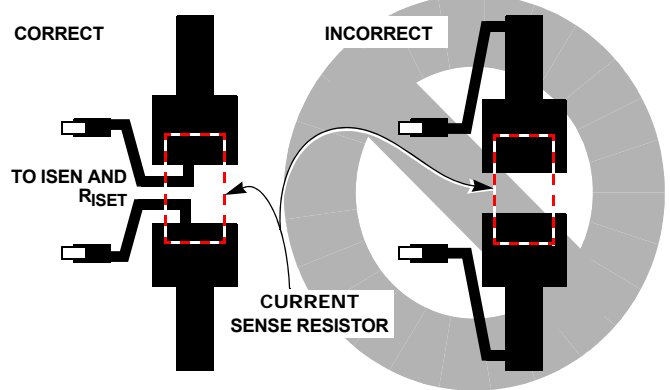

FIGURE 1. SENSE RESISTOR PCB LAYOUT
**Physical layout of RSENSE resistor** is critical to avoid the possibility of false overcurrent occurrences. Ideally, trace routing between the RSENSE resistors and the IC is as direct and as short as possible with zero current in the sense lines (see Figure 1)..